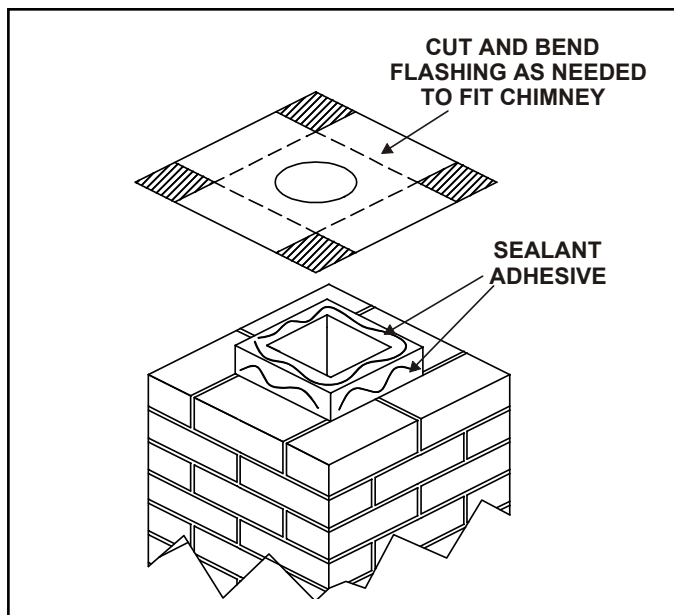

Figure 5.5
- Trim chimney top plate to minimize excess overhang or bend over flue tile. See Figure 5.5.